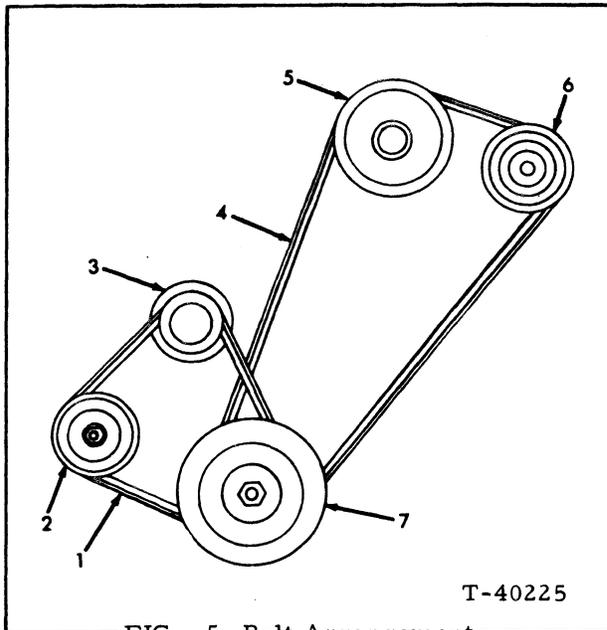

FIG. 5 Belt Arrangement
3.2.3 BELT ARRANGEMENT - 260, 260E (Fig. 5)